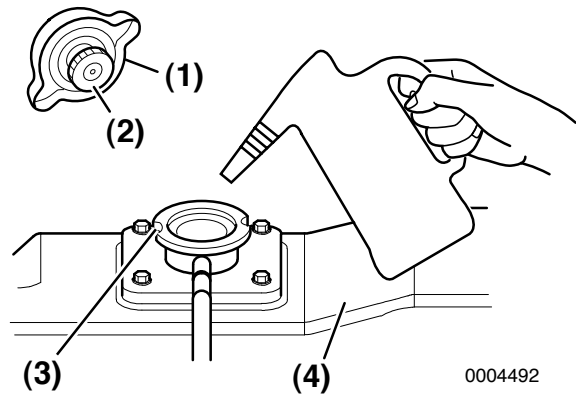

Figure 19
3. Pour coolant slowly into the coolant tank (**Figure 19, (4)**) to avoid air bubbles. Fill until coolant overflows from the filler port.
4. Align filler cap tabs (**Figure 19, (2)**) with filler port notches (**Figure 19, (3)**) and tighten filler cap (**Figure 19, (1)**).